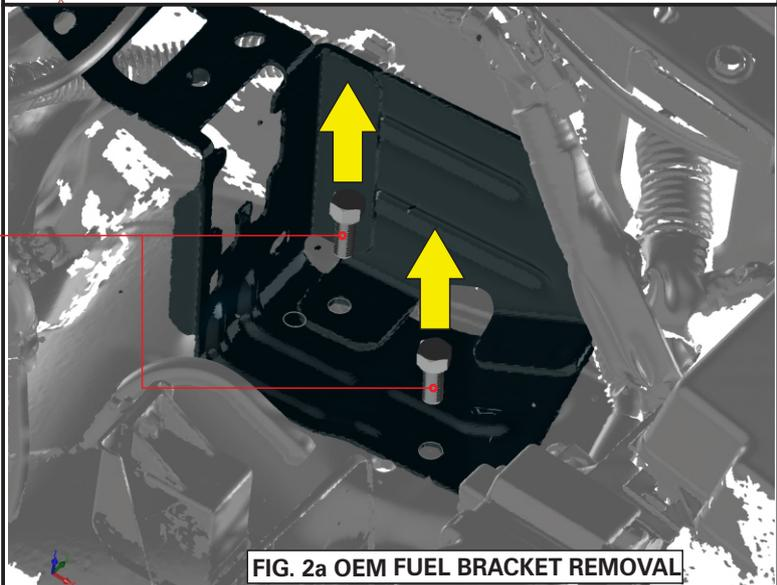

FIG. 2a OEM FUEL BRACKET REMOVAL
4. Unscrew the 2 x OEM M8 bolts shown in Fig. 2a. Ensure you hold onto these M8 bolts, as you will be using these to fit the FB9817FC bracket later.